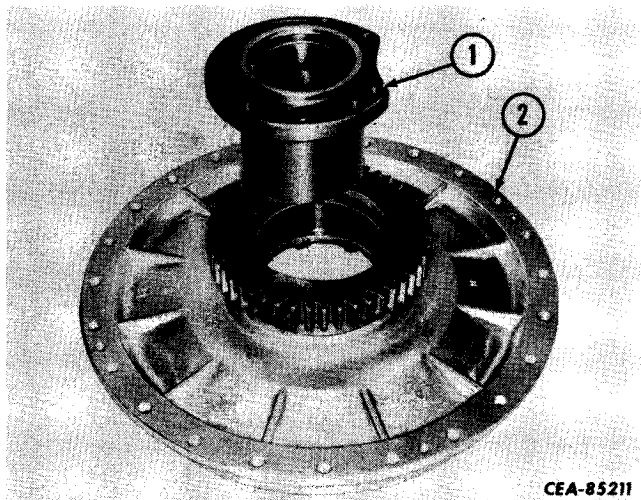

Figure 3-14
Remove the guide wheel carrier (1, Fig. 3-14) from the impeller wheel (2).